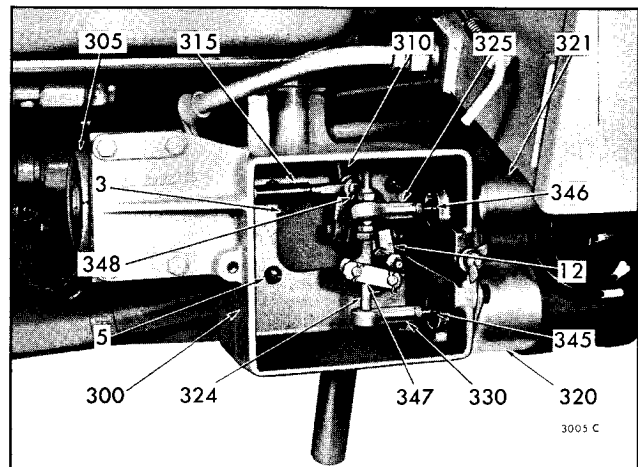

Fig. 6 - Throttle Control Linkage Arrangement
1. Refer to Figs. 6 and 8 and disconnect the throttle linkage attached to the throttle control lever (12).
2. Refer to Figs. 6 and 8 and disconnect the engine shut-down control rod end (315) from the shut-down control lever (310).
2. While still holding the buffer screw from turning, tighten lock nut (58).
4. Refer to Figs. 6 and 8 and connect the throttle control linkage to the throttle control lever (12) that was previously removed.
With the engine governor adjustments performed, the governor shut-down solenoid (305) and shut-down lever (310) shown in Figs. 6 and 8 may be adjusted as follows:
1. If previously removed, or moved from its original position, thread the shut-down control rod end on the solenoid plunger approximately four (4) complete turns.
2. On the current throttle control linkage arrangement shown in Fig. 6, place the shut-down control rod end (315) on pin in shut-down control lever; then, install and tighten the four bolts that secure the shut-down solenoid to the throttle